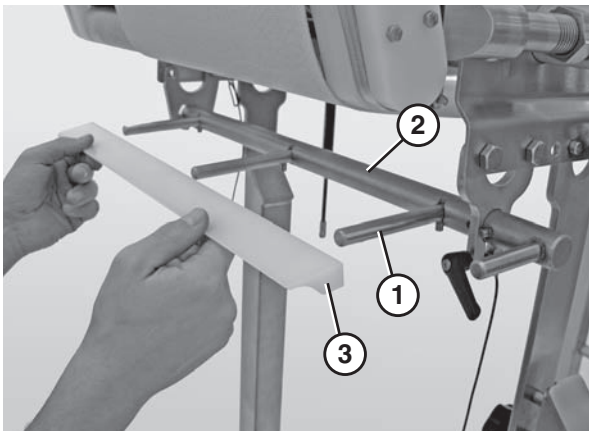

Figure 21
4. Attach the scraper bar holders (Figure 21, item 1) to the scraper shaft (Figure 21, item 2).
5. Attach the UWHM scraper (Figure 21, item 3) to the scraper bar holders (Figure 21, item 1).